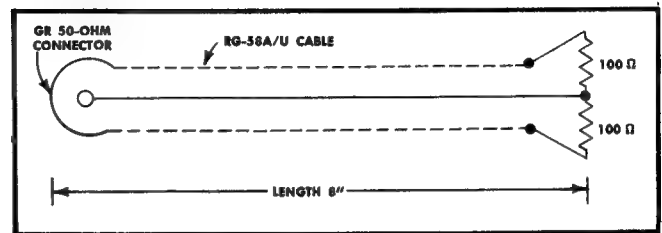

Fig. 6-1. 50-ohm terminated pigtail circuit.
- (1) Conventional test oscilloscope such as a Tektronix Type 540-Series Oscilloscope with a Type L Plug-In Unit, a Type P6000 10X Attenuator Probe and a Type P6027 1X Attenuator Probe. Substitute specifications: Bandpass 30 mc with the 10X probe; deflection factor, at least 50 mv per cm and at least 5 mv per cm at reduced band-pass.
- (2) Sampling test oscilloscope such as a Tektronix Type 561 Oscilloscope with a Type 3S76 and a Type 3T77 Plug-In Units. Substitute specifications: Risettime, 0.4 nsec or less; any deflection factor up to 20 volts per division. (The Tektronix Type 519 (conventional) Oscilloscope can also be used as an excellent substitute.)
- (3) One 50-ohm 20-nsec cable, 160", RG-8A/U, with GR 874 connectors on each end, Part No. 017-504.
- (4) One 50-ohm 5 nsec cable, 40", RG-8A/U, with GR 874 connectors on each end, Part No. 017-502.
- (5) One 50-ohm terminated cable assembled as shown in Fig. 6-1. Requires the following parts: